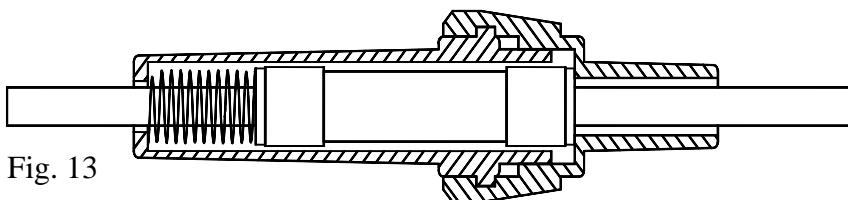

Fig. 13
3. Bare a small amount of wire from the ends of the cable, twist the copper wire crimp and solder the electrical connections (3) onto the ends.
4. Insert the fuse and twist the two halves of the holder together to complete the electrical circuit [See fig.13].